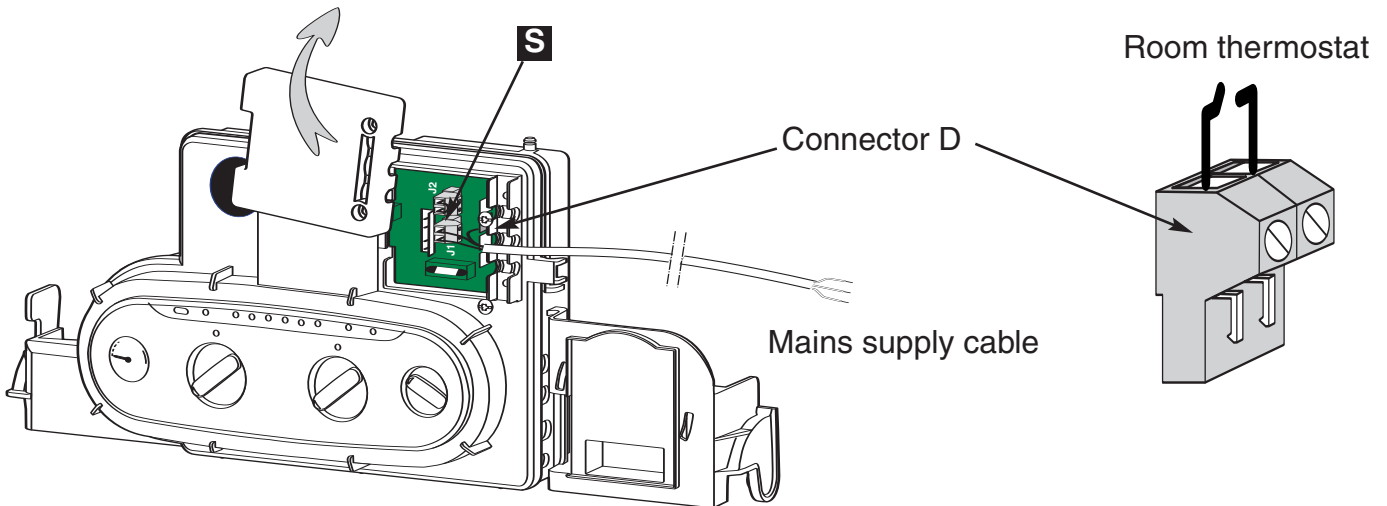

Fig. 11
- Function with room thermostat, remove bridge **S**, room thermostat connected as shown on connector **D** (Fig.11).